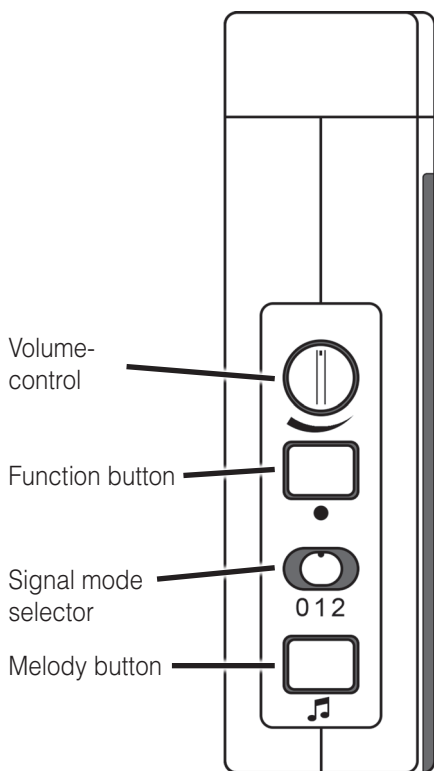

Figure 2: Controls, left side
Using the signal mode slide switch (in fig. 2 "0 1 2") you can select the signal mode. Kindly keep in mind that the event icons are always displayed by coloured LEDs.
- a) Keep the function button »●« (fig. 2) pressed for some time. The event icons start to light up in sequence. Let go of the key as soon as you see the desired icon.